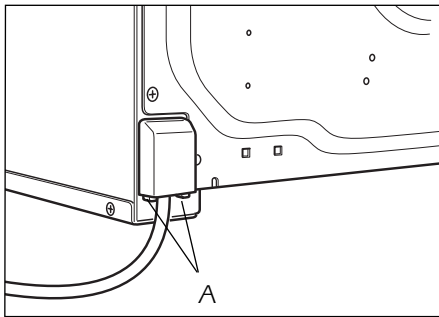

Fig. 5
- Unhook the terminal board cover by inserting a screwdriver into the two hooks "A" (Fig. 5).